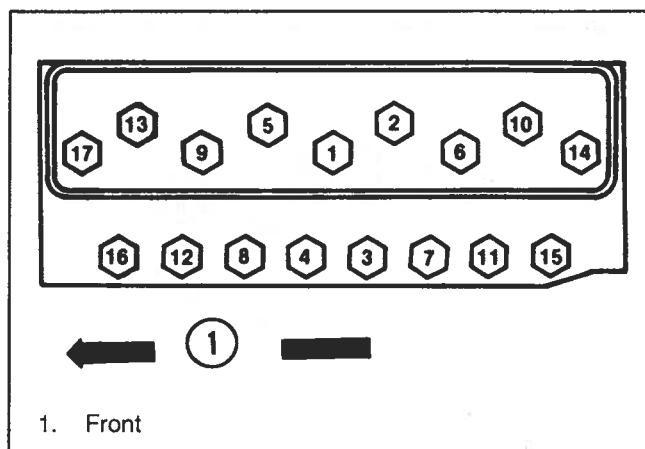

Figure 8-138. Cylinder-Head Tightening Sequence
5. Tighten each cylinder-head bolt a little at a time in sequence shown in Figure 8-138 until specified torque is reached.